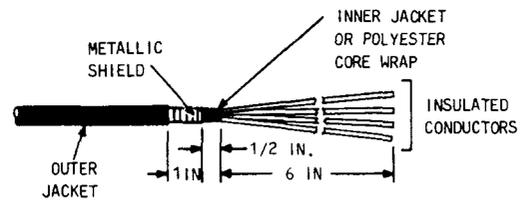

Fig. 13—Prepared Service Wire—B Cable Closure
5.02 Prepare the service wire as illustrated in Fig. 13.